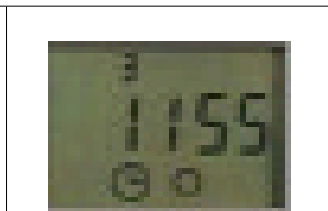

Fig. 6
- Press and hold the \ominus button (see fig. 6).
- The ':' symbol between the hours and minutes display will start to flash, this indicates that the clock is now keeping time (see fig. 6).